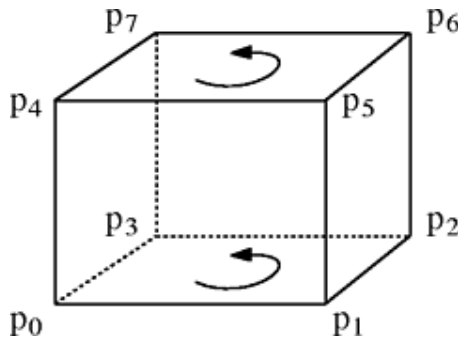

Figure 20.15: Numbering of points in a hexadron with positive volume.
- The `hexas` array describes the actual hexahedra. For each hexahedron, the indices of the eight points and the indices of the six faces it consists of are stored. The numbering of the points is shown in Figure 20.15. Degenerate cells such as prisms or tetrahedra may be defined by choosing the same index for neighboring points.